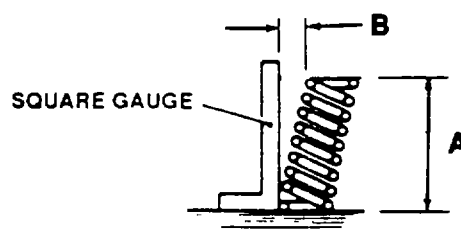

Figure 5-7. Spring Inclination.
(9) Check the valve spring for flaw or corrosion.
(10) Refer to Figure 5-7. Check that the valve spring free length (dimension A) is more than 1.043 inches (26.5 mm).
(11) Check that the spring inclination (how far spring inclines to the left or right, dimension B) is less than 0.030 inch (0.75 mm).
(12) Check that the OD of the valve rocker arm support shaft is more than 0.4685 inch (11.90 mm).
(13) Check that the ID of the valve rocker arm does not exceed 0.4764 inch (12.1 mm).
(14) Check for bending of the push rods.
(15) Inspect and clean thoroughly the gasket and O-ring areas of cylinder head and crankcase.
(16) Inspect studs (8) and (11). Replace if threads are stripped or broken.